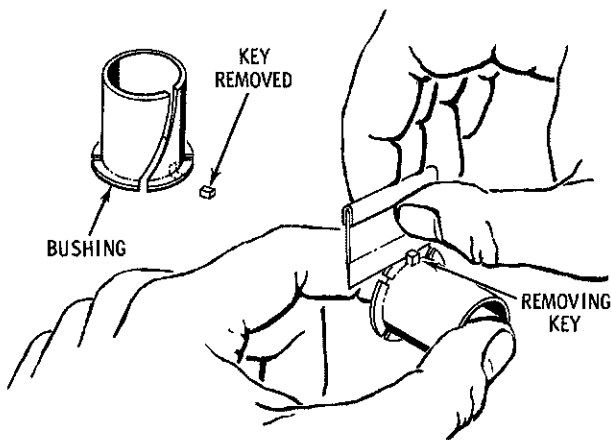

Figure VII-11
- If for any reason it is not desired to cut these keyways, the keys may simply be cut from the bushings with a sharp knife or razor blade and discarded. (Figure VII-11)